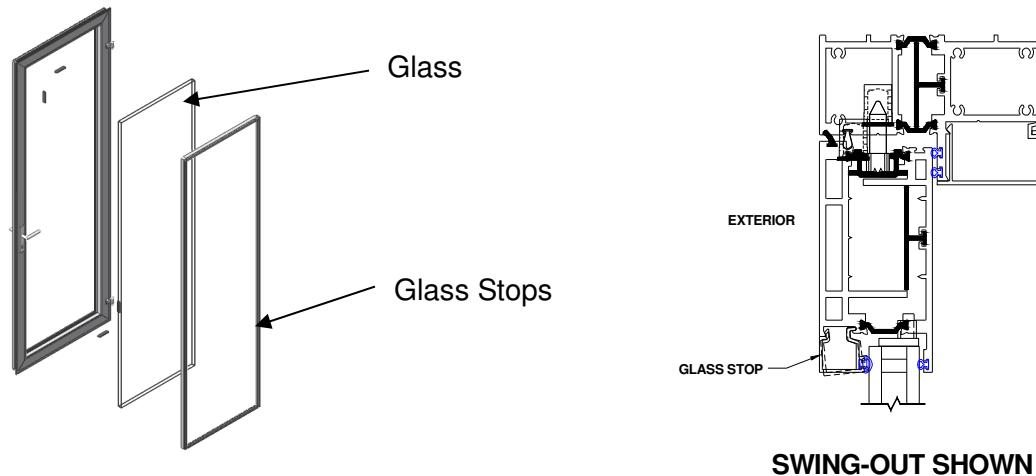

Figure 12:
- Install glass setting blocks (total 4 pcs per panel) at $\frac{1}{4}$ points into jamb, head and sill for hinged lower corner and opposite upper corner (Figure 12).